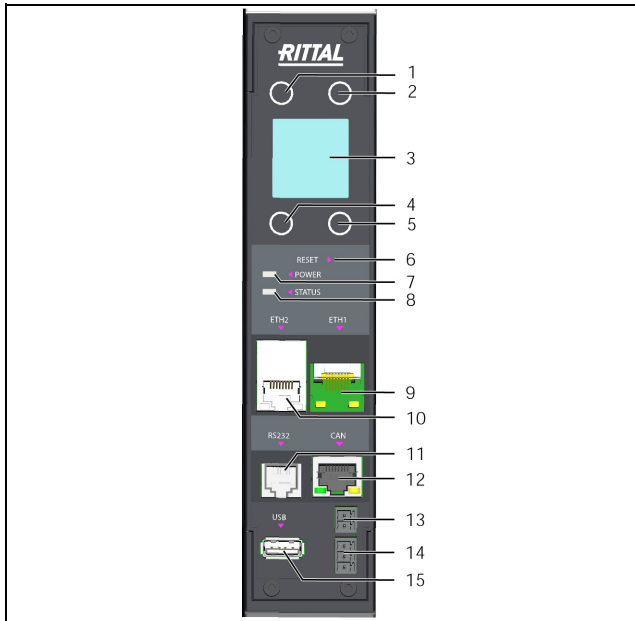

Fig. 4: Control and display elements and connections of the CMC III PU 19" Edition
After connecting the CMC III PU 19" Edition to the power supply, the green power LED (fig. 4, item 7) will be illuminated, and the CMC III PU 19" Edition will start to boot automatically.
If connected to a network, the Link and Status LEDs on the RJ 45 jack will be illuminated (fig. 4, item 9 and item 10).
After a few seconds, the multi-LED for status display will start to flash blue, indicating that booting is in progress (fig. 4, item 8).
- Connect one of the Ethernet interfaces „ETH1“ or „ETH2“ (fig. 4, item 9 or item 10) using a network cable with an RJ 45 connector to the existing network structure.
A wide range of sensors, actuators and systems for access monitoring (see section 13 "Accessories") can be connected to the CAN bus interface (see fig. 4, item 12).
An external signal source for the alarm signalling can be connected to the potential-free relay output (fig. 4, item 14).
A floating switch contact can be connected to the digital input and so, for example, the fault output of an external device evaluated (fig. 4, item 13).